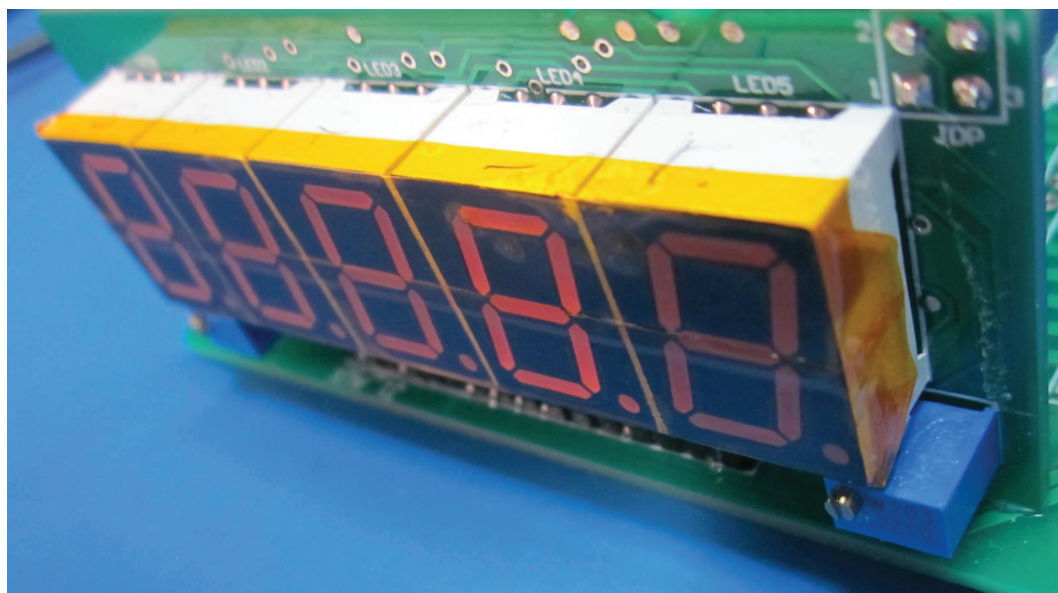

Figure 10: Kapton Tape on LEDs
4.3.3 Using the Kapton tape found in the kit from inventory, mask off the numeric LEDs and decimal point selection jumpers. This is shown in **Figures 10 and 11**.